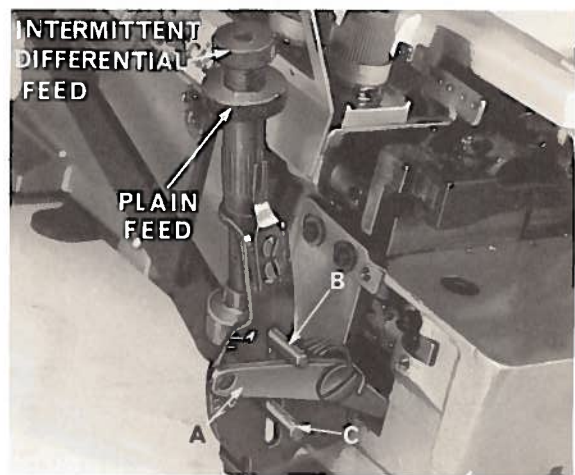

Fig. 27
The position of the differential control lever (A, Fig. 27) is governed by an upper stop (B) and a lower stop (C). The amount of lever movement between these two stops determines the feed action.